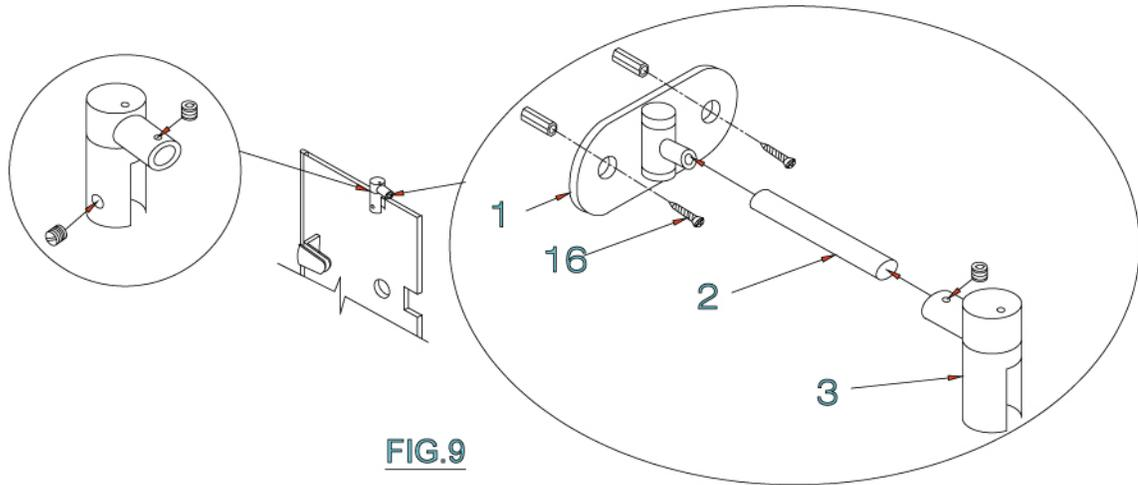

FIG.9
1. Install the support assembly (#3) onto the side glass panel (#4) approximately two-thirds away from the wall. Use hex key to tighten the screws. [SEE FIG.9]